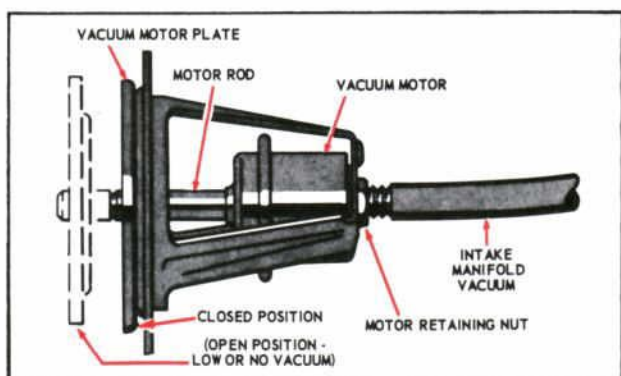

Fig. 4—Vacuum Override Motor Assembly Attached to Air Cleaner
1. Start engine, observe vacuum motor plate. It should be fully closed (See Fig. 4.)
2. Disconnect the vacuum hose at the vacuum motor. The plate should now be in the fully open position (See Fig. 4.)